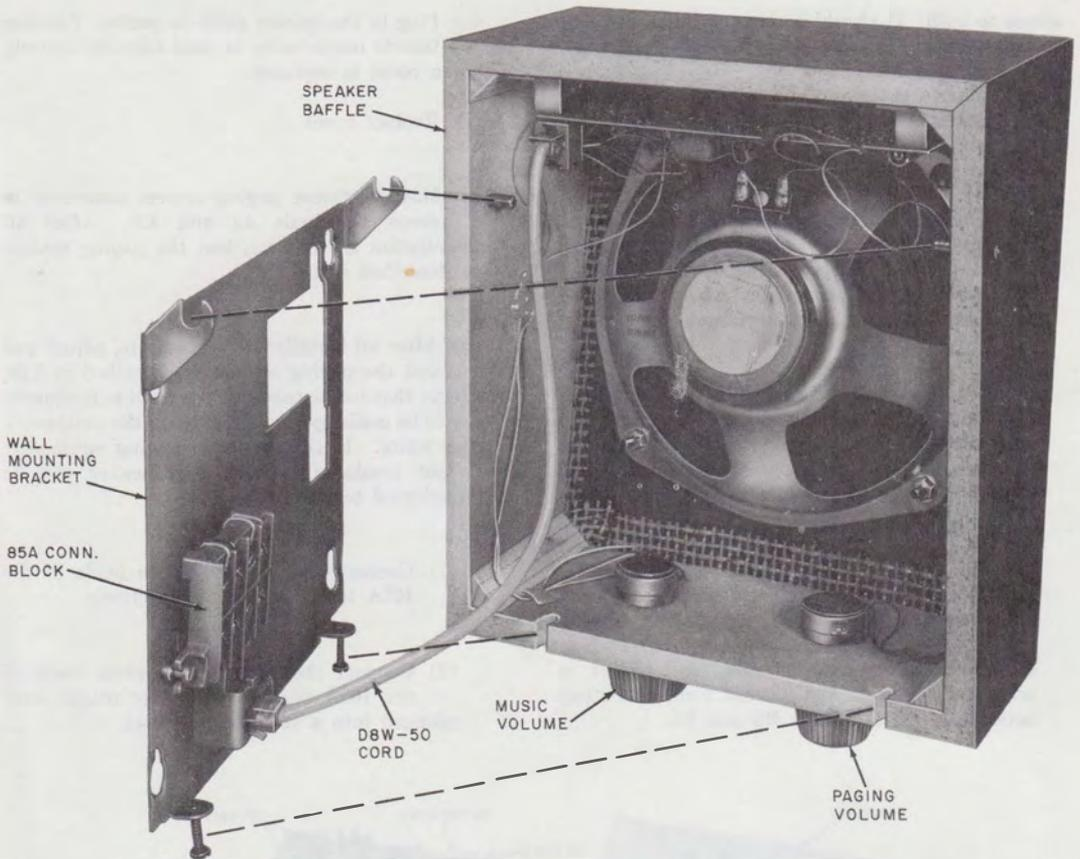

Fig. 27—109A Loudspeaker Set (New Model)
- (1) The loudspeaker set is shipped completely assembled. Loosen the two locking screws on the bottom of the loudspeaker set and separate the wall bracket from the baffle (Fig. 27). Unplug the D8W cord from the 85A block.
- (5) While holding the loudspeaker baffle up near the wall bracket, plug the free end of the D8W cord into the modular jack of the 85A block (Fig. 27).
- (6) Mount the loudspeaker baffle on the wall bracket by hooking the two pins on the inner sides of the baffle into the two mounting slots of the wall bracket. Press the baffle down against the bracket so that the two slots in the lower edge of the baffle fit over the two locking screws of the wall bracket; tighten the screws.
- (7) After all installation is complete, adjust and test each loudspeaker as described in 3.39.